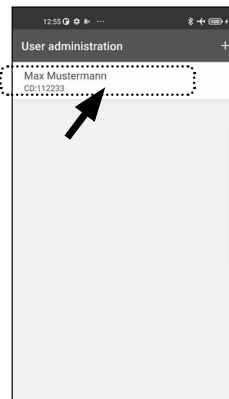

Fig. 56
- ④ In the list of created users, tap the user for which you want to change the user code (Fig. 56).